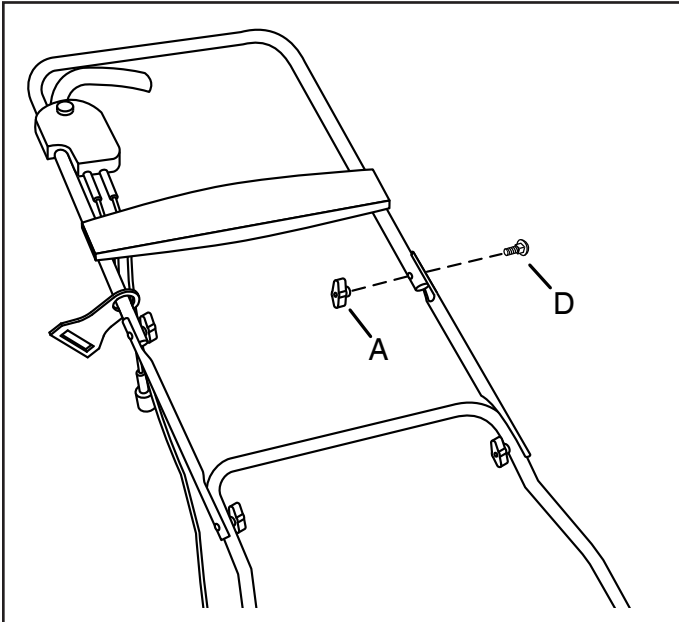

FIGURE 5
STEP 5: (SEE FIGURE 5)
- Attach the upper handle tube to the middle handle tubes using two carriage bolts (D) and wing knobs (A). Keep the cord holder above the carriage bolt and wing knob while assembling.